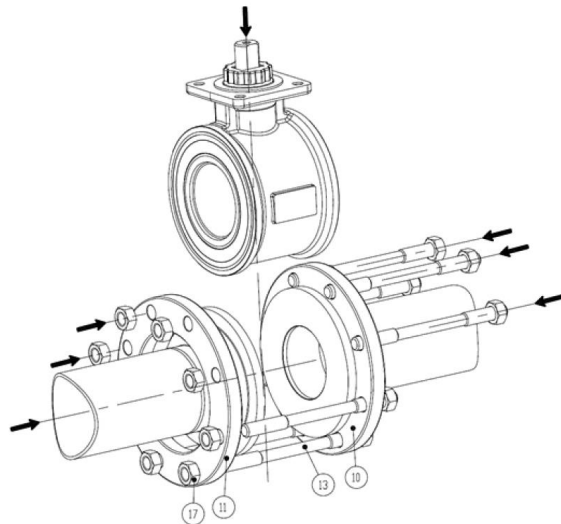
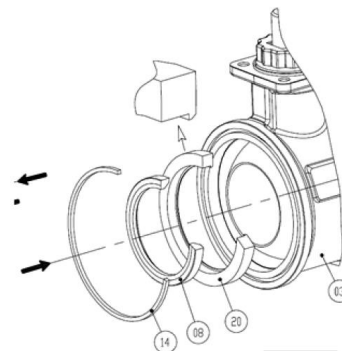
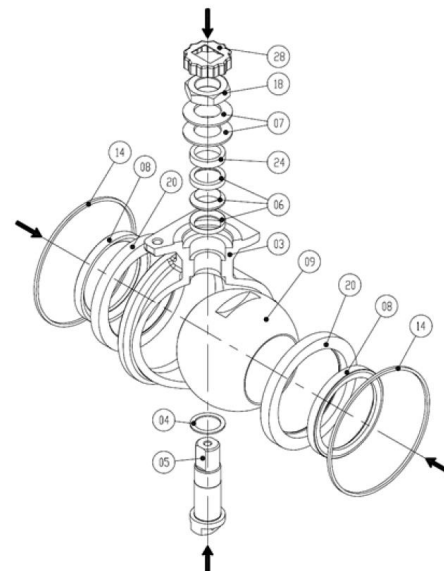

Fig 5
Fig 7
Fig 8
Valve assembly body DN65 to 150 (Fig 5)
Seats (08), body seals (14), ball (09) replacement (Fig 5 & Fig 7)
1. Unscrew nuts (17) and boltings (13)
3. Operate a 90° turn in order for the ball (09) to be in the closed position
4. Push the ball (09) out of the valve body. Seat supports (20) are also pushed out
5. Take the seats (08) out of the seat supports (20)
6. Take body seals out (14)
When re assembling the seats (08) and seat support (20), make sure it is done as per shown on figure 7
Packing (06) and stem seal (04) replacement (Fig 5, Fig 7 & Fig 8)
1. Unscrew one screw (13) and take it out with the spacer (12) and the nut (17) to allow valve body to be taken out
3. Operate 90° to allow the ball (09) to be in the close position